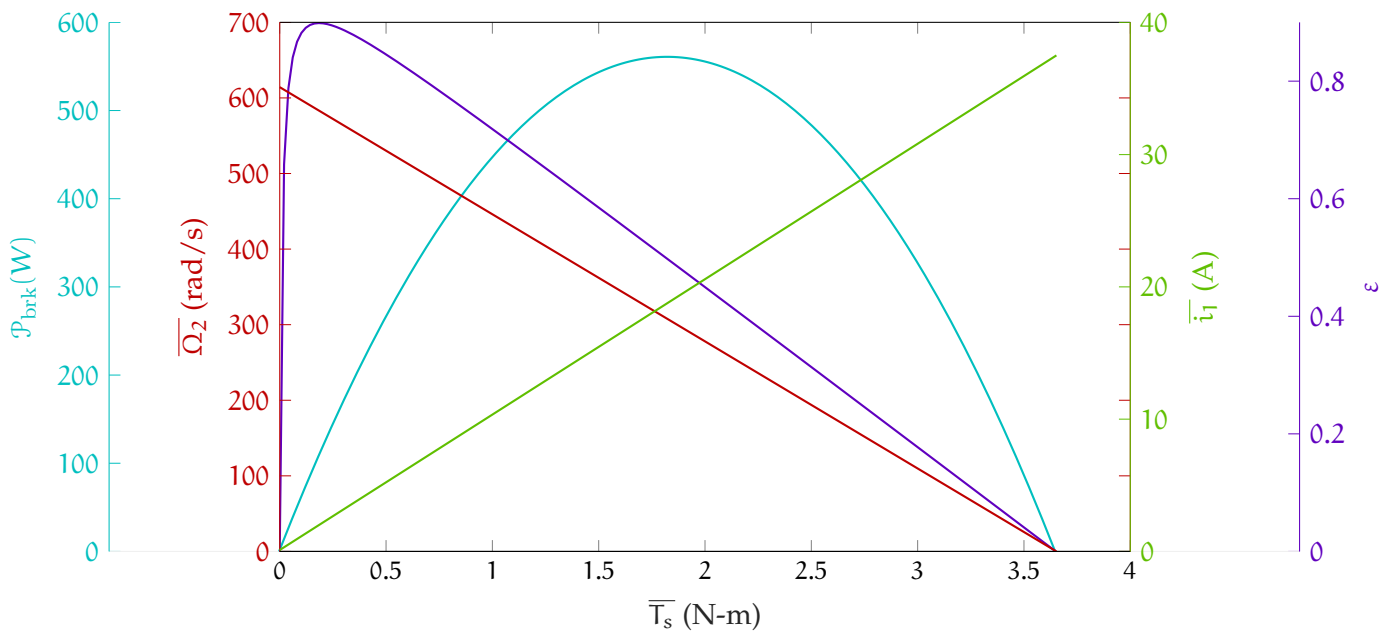

Figure exe.7: the motor curve Fig. curves.2 for Exercise emech..
reproduced in Fig. exe.7.
- You are to use this motor to drive a load at a constant angular speed of 100 rad/s with at least 1 N-m of torque. You wisely choose to use a gear reduction between the motor and load. What should the gear ratio be to meet the above requirements and optimize efficiency? Justify your answer in terms of the motor curves of Fig. exe.7.
Consider the DC motor curves of Fig. curves.2, reproduced in Fig. exe.7. If this motor is running at  $400 \frac{\text{rad}}{\text{s}}$ ,